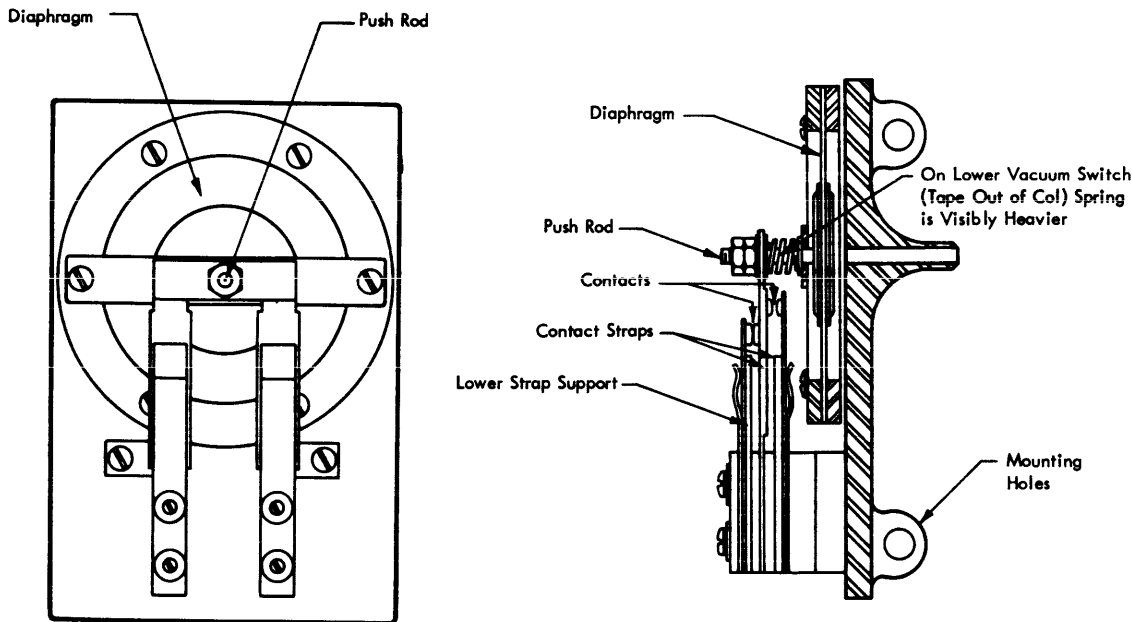

Figure 50. Vacuum Column Switch
Each column contains two holes: one about one-third of the column length from the top; the other about one-third of the column length from the bottom. A vacuum-operated switch is attached, by a short tube, to each hole. As the tape loop is moved past the holes, the change in air pressure is sensed by the switch. The vacuum column switch is shown in Figure 50. The presence of a vacuum causes the diaphragm to move in a direction to transfer the contacts of the switch. For greater reliability, two sets of contacts are used in parallel.
*Push Rod:* The vacuum switch push rod should have 1/4-inch clearance between the adjusting nuts and the switch transferring contact strap. Position the adjusting nuts as required to attain this condition. See Figure 50.